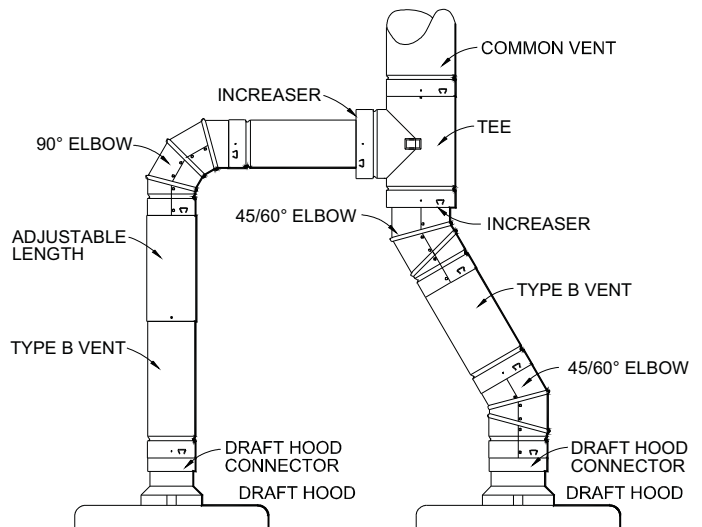

FIG. 3
Selkirk Gas Vent pipe meets all building code and safety standards for use as gas appliance vent connectors. (See Fig. 3). Correct selection of connector and vent size is detailed in the Selkirk MetalBest Gas Vent and Chimney Sizing Handbook, the "National Fuel Gas Code" (NFPA 54), and local/regional codes.
8. USE OF GAS VENT FITTINGS (See Figs. 3 & 7.)